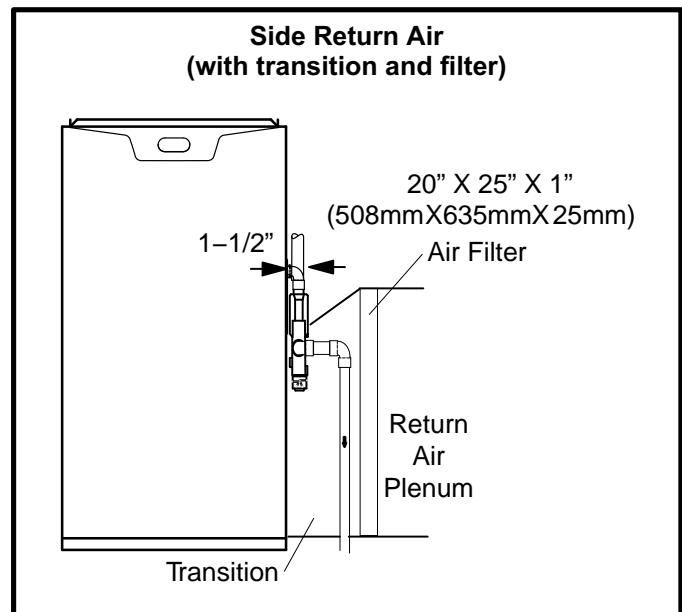

FIGURE 13
**EL296UHE applications which include side return air and a condensate trap installed on the same side of the cabinet (trap can be installed remotely within 5 ft.) require either a return air base or field-fabricated transition to accommodate an optional IAQ accessory taller than 14.5". See figure 13.**